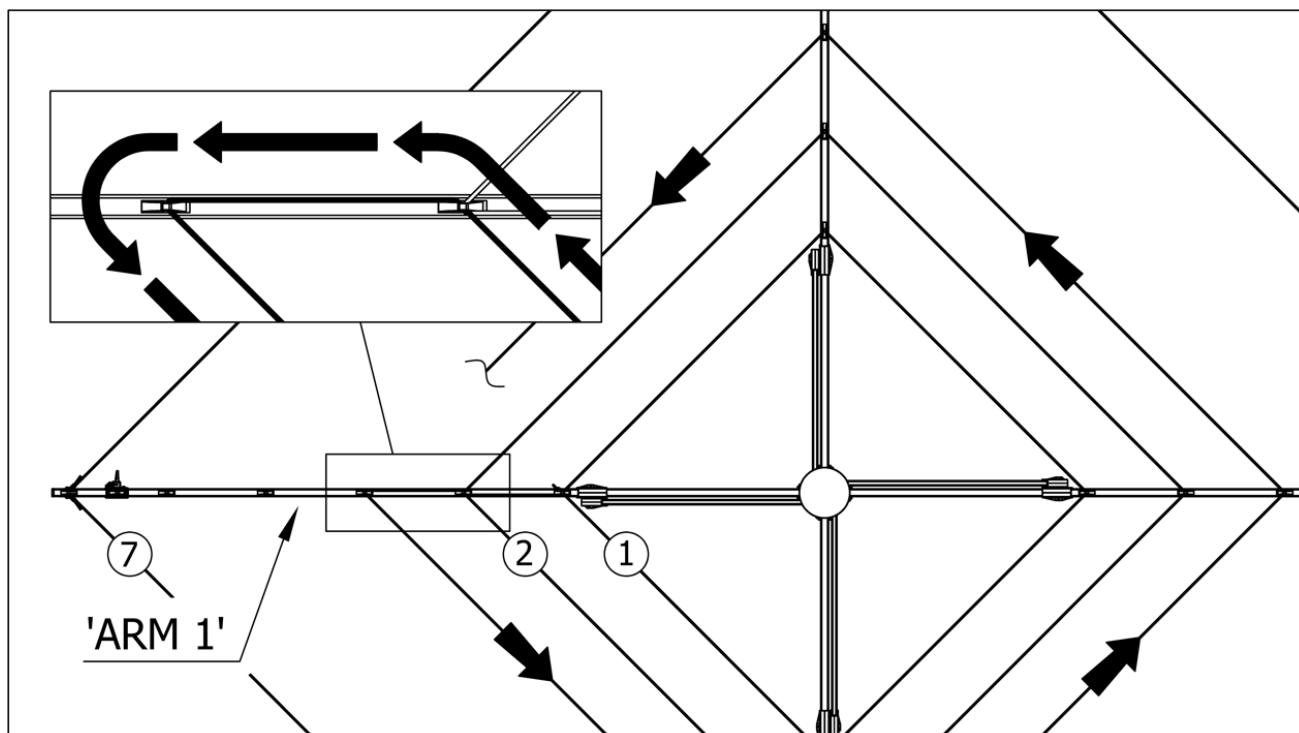

Fig 9. Cording third line. (Viewed from above)
1. Pull the cord back into the second clip and then run the cord parallel to the arm up to the next clip. (Fig. 9)
2. Cord line 3 in an anti-clockwise direction. (Fig. 9)